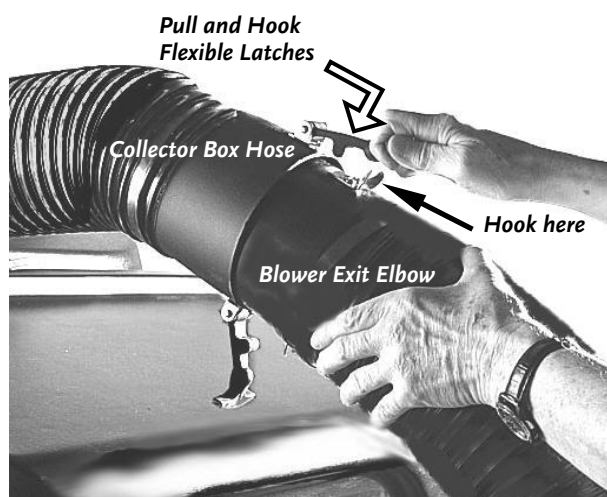

Figure 15
1. Connect the hose from the Collector Box to the Blower Exit Elbow Assembly by aligning the two (2) Flexible Latches (**Figure 15**) and slipping the hoses together.
2. Pull and hook the two (2) Flexible Latches into place (**Figure 15**) to secure the hoses.